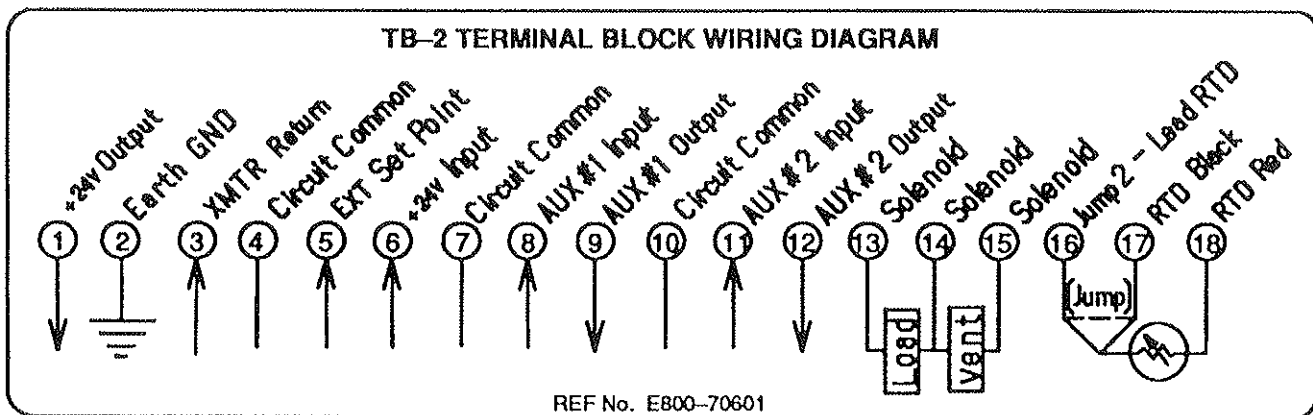

FIGURE 2
7. After mounting the EPC at the desired location, remove the cover by removing 6 screws. Then remove field wiring panel by loosening two captive screws. The terminal block wiring diagram shown in Figure 2 appears on the back of the panel. Power and signal lines should be routed through separate conduits to avoid interference.
- b. Check fuse (F₁ in Figure 2).